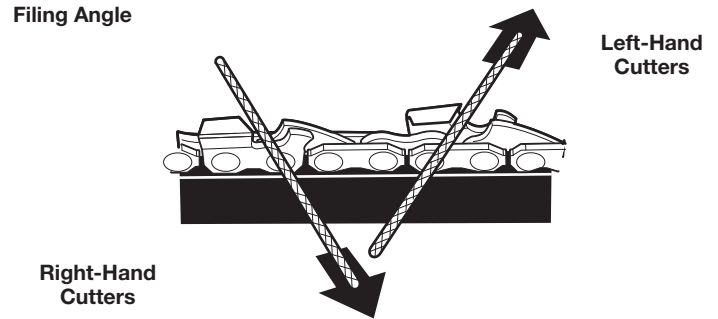

Fig. 37
- File toward the front corner of the cutter (Fig. 37). Lift the file away from the cutter at the end of the forward stroke. Only file on the forward stroke.
- File all the left-hand cutters in one direction (Fig. 37). Then move to the other side of the saw chain and file all of the right-hand cutters in the opposite direction (Fig. 37).